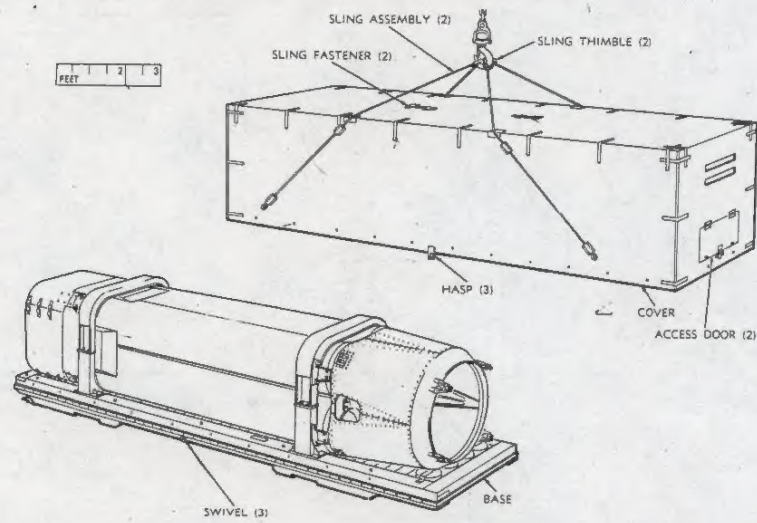

Figure 3-5. Rocket-motor cluster container.
- (3) The rocket-motor cluster is received in a wooden container that has a gross weight of approximately 6,500 pounds (fig 3-5). The four rocket-motor igniters are in a separate compartment at one end of the container. The rocket-motor igniter cable also is in this container.